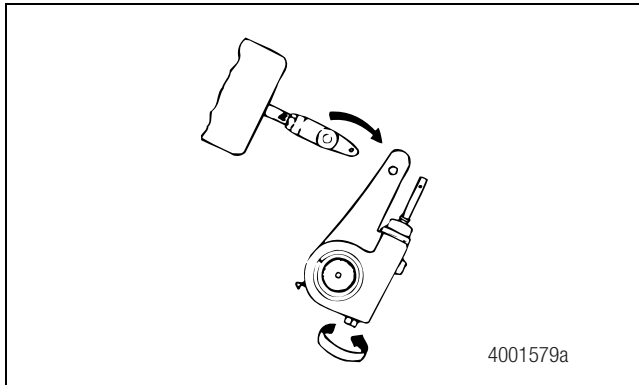

Figure 6.2
8. Use a wrench to turn the manual adjusting nut in the direction shown in Figure 6.2. Move the slack adjuster away from the clevis.